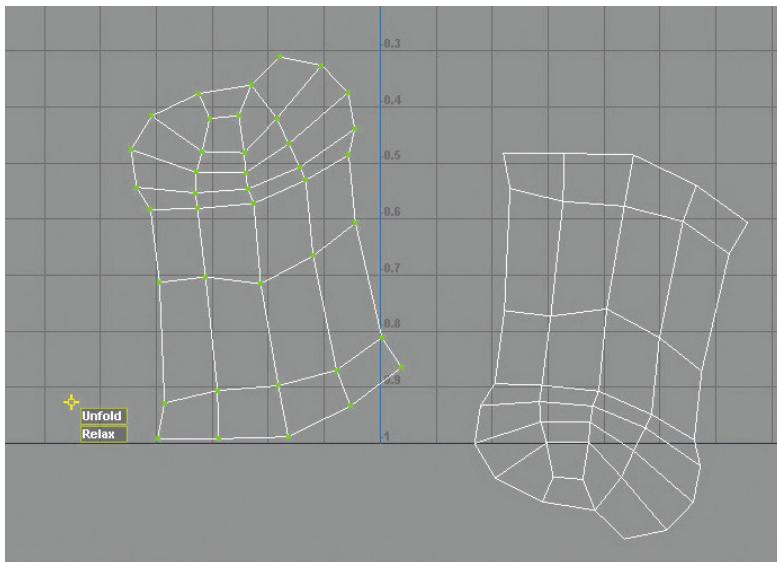

FIG 5.34 Unfolding (via Smooth UVs) the antenna shells.
Step 8: Use the Smooth UVs Tool's Unfold option to unfold these antennae into a better shell (Fig. 5.34).